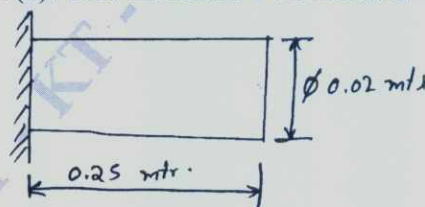

Fig Q10(b)
b. Evaluate eigen value and eigen vector of longitudinal vibration of the constrained uniform circular bar shown in Fig Q10(b). Take minimum 2 elements. $E = 210\text{GPa}$, $\rho = 7860\text{kg/m}^3$.